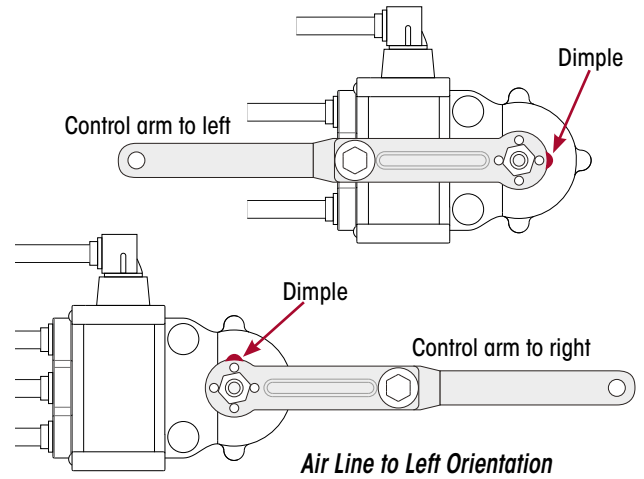

Figure 4: Valve & Arm Orientation with Identifying Dimple
1. Refer to manufacturer's instructions or to the notes made before removing the previous HCV. The HCV may be installed in a vertical or horizontal position with the control arm in either left- or right-hand position. Determine the correct HCV dimple, control arm position and orientation for the vehicle. Refer Figure 4.
2. Fasten the control arm to the valve body making sure the alignment identifier dimple on the cap is in the proper position for the valve orientation. Apply a thread locking compound to the shaft thread and tighten the Nyloc nut to 3 Nm (27 in. lbs.). Refer Figure 4.
- Confirm control arm and alignment dimple are in their correct positions. Refer Figure 4.